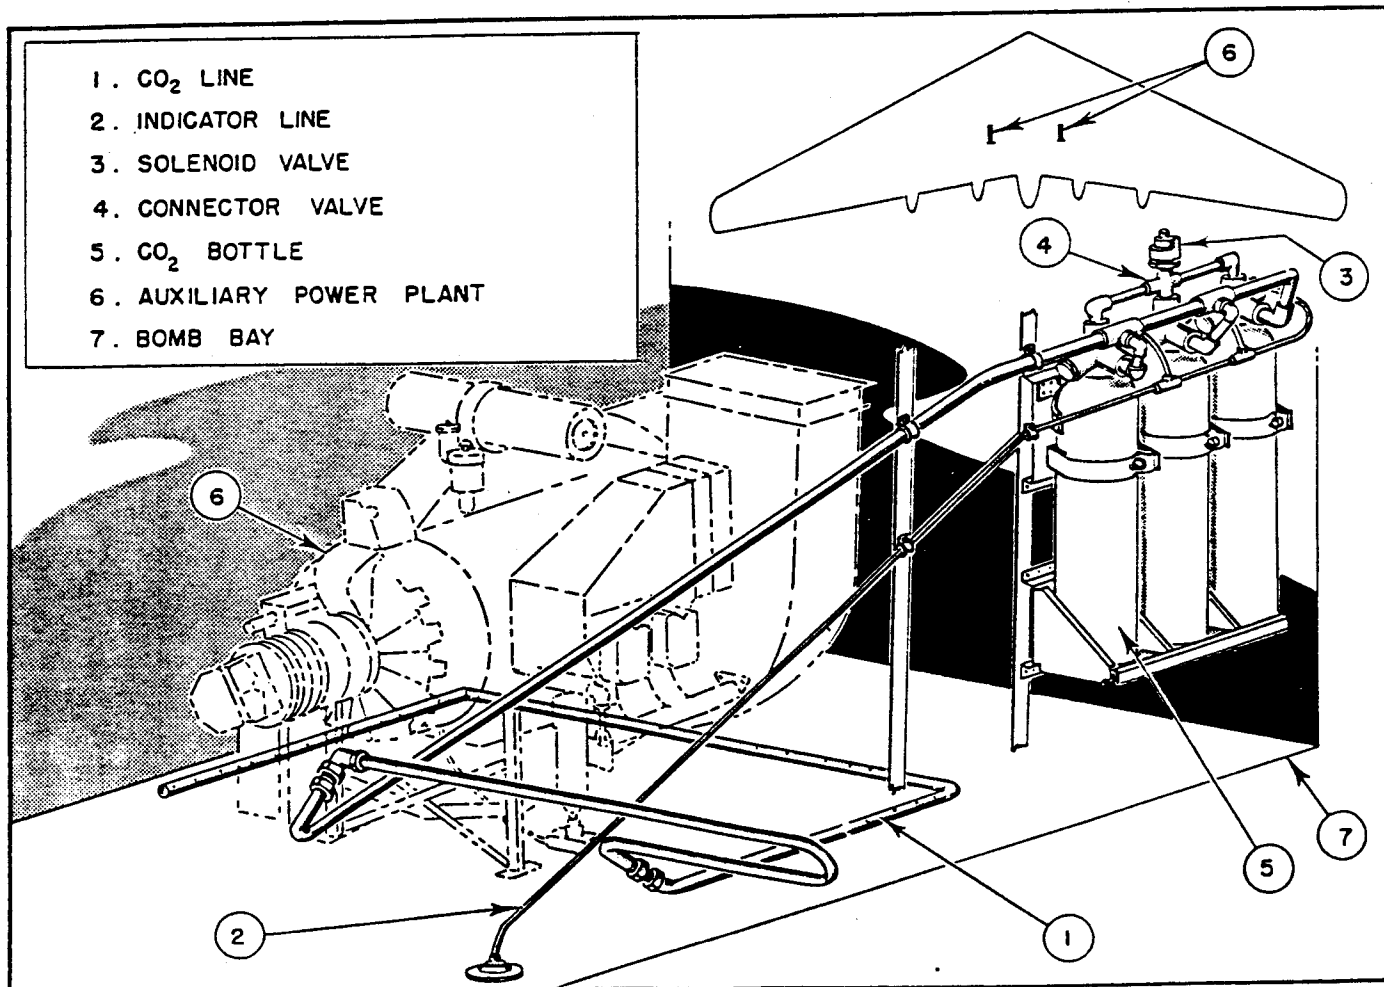

Figure 9. A.P.U. Fire Extinguisher System
(1) **DESCRIPTION.** (See figure 9.)- The auxiliary power units are provided with a separate fire detection and fire control system. One fire may be taken care of in each A.P.U. compartment by the three 1800 psi carbon dioxide cylinders installed there.